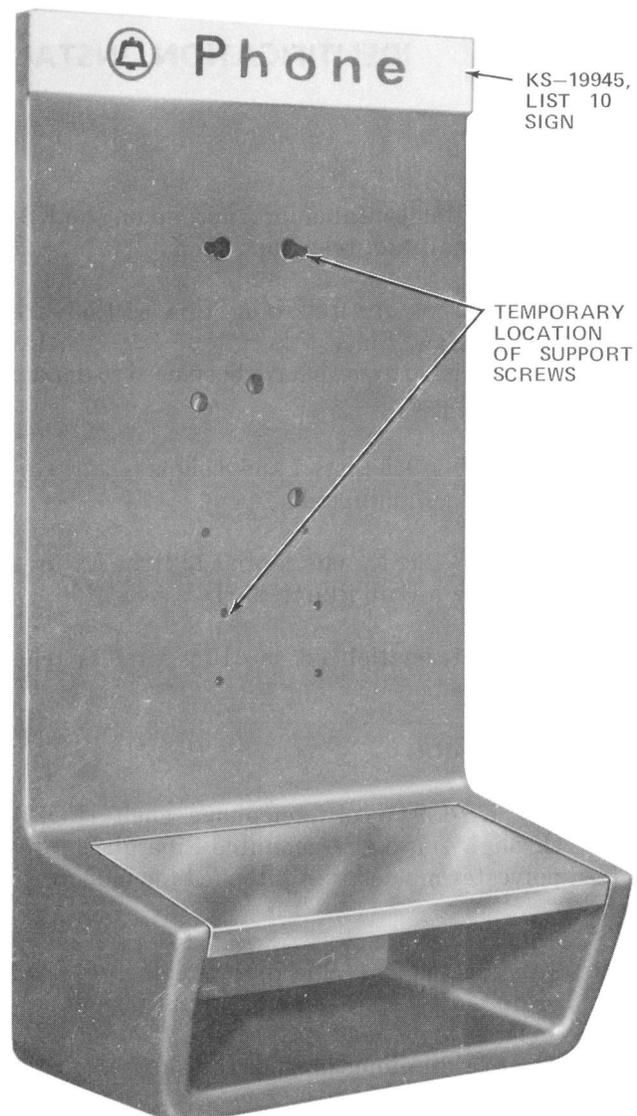

Fig. 3—KS-19945, List 14 Coin Telephone Shelf
- (1) Shelf with a solid backplate (Fig. 3) for fitting over a 174A (MD) or 178A backboard.
3.03 Utilizing the top-right keyhole slot in backplate of shelf (Fig. 3) hang the shelf on this screw. Align the mounting holes of the backplate with the mounting holes of the backboard and install another 1/4-20 by 5/8 round head machine screw in lower portion of backboard.
Security studs must be used. They will go through shelf and backboard (Fig. 3).